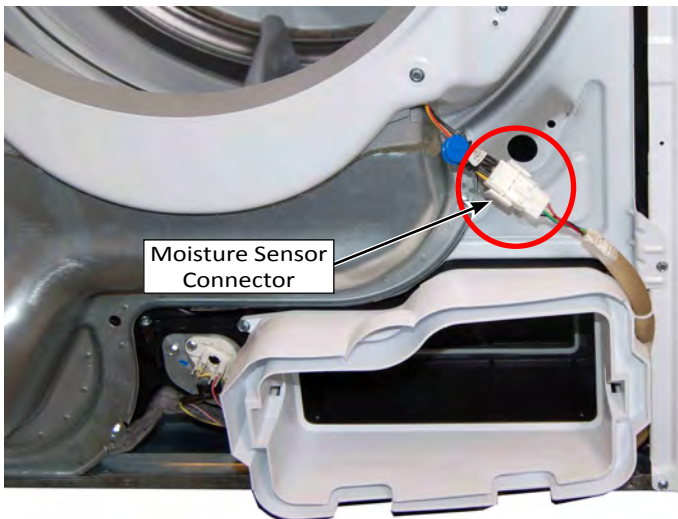

Figure 1
4. Disconnect Moisture Sensor connector (see Figure 1).